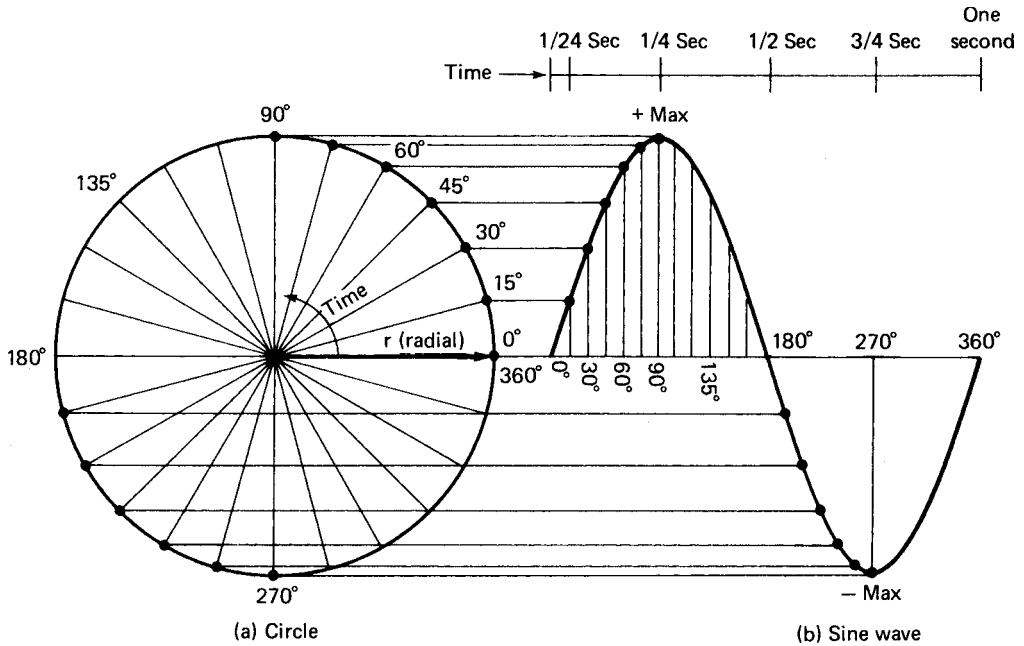

Figure 7-11 Sine wave showing how it is generated by a point rotating in a circle, that point being one coil on a generator rotating in a magnetic field.
The sine wave is unique. It can take many shapes. The sine wave has a very special relation to time and motion. Take a close look at Fig. 7-11. Assume that a point at the end of the radial ( $r$ ) takes one second to travel at a constant speed around the circle, as shown in Fig. 7-11a. How long would it take the point to move  $90^\circ$  or  $180^\circ$ ? Since the radial rotates at a constant speed, it would require 0.25 second to rotate  $90^\circ$  (from a horizontal position to a vertical position). At this instant, the point at the end of the radial (on the circumference of the circle) would be at the highest point with relation to the horizontal line. At  $180^\circ$  the point will have been in motion for 0.5 second and will have reached the horizontal line. At  $270^\circ$ , or 0.75 second, the point at the end of the radial line will be at the lowest point with relation to the horizontal reference line. Finally, in 1 second the point at the end of the radial comes back to its starting position, and one cycle (called 1 hertz) has been completed. Keep in mind that time can be stated in degrees of rotation, and the horizontal reference line is time.
**Average value.** The average of all instantaneous values of a generator is measured at regular intervals (see Fig. 7-11). Instantaneous values are taken